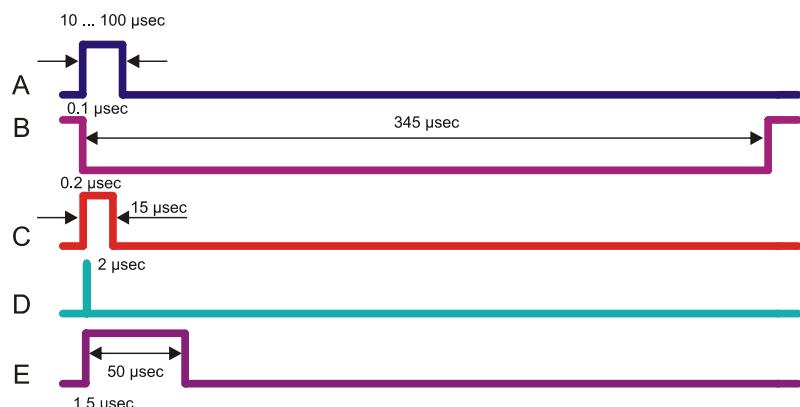

Figure 22: Timing of laser pulse with / without COD
The fundamental difference between the two capacitor charging modes is the timing. This is illustrated in Figure 22 which shows the timing of the triggering of a laser pulse with and without COD.
Key to Figure 22
As can be seen in Figure 22, the trade-off of COD is a long delay between the trigger signal (A) and the laser pulse (D) and associated sync. out signal (E). This delay varies depending on the version of the laser device (see Section 4.6.7.4 on page 114). If the delay between trigger signal and laser pulse is unacceptable for the effective coordination of the laser with other operations, the COD mode can be switched off by the user through a dedicated software command.